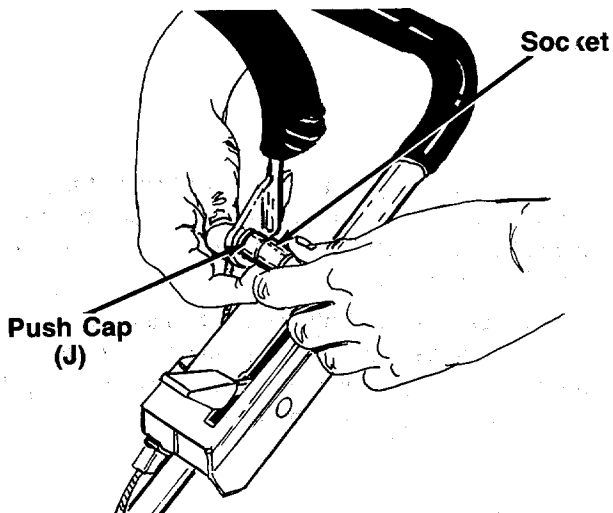

FIGURE 9.
14. Insert the "L" end of the brake/clutch cable into the hole in the blade control handle. Secure with push cap (J) by inserting push cap into the end of a small socket and pressing onto the end of the brake/clutch cable as shown in figure 9.